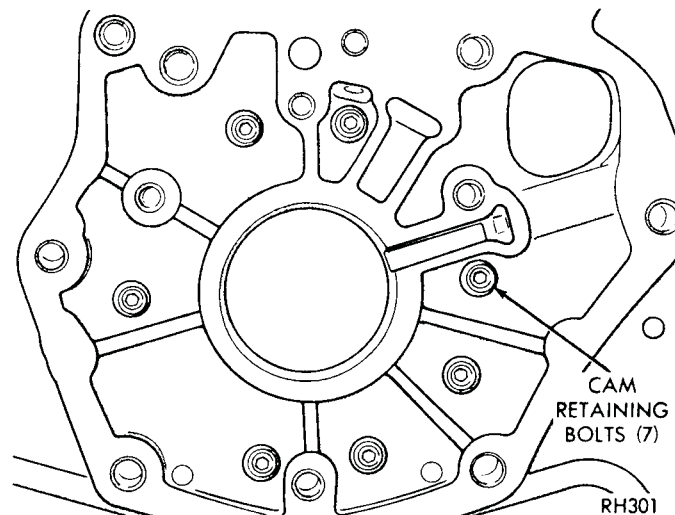
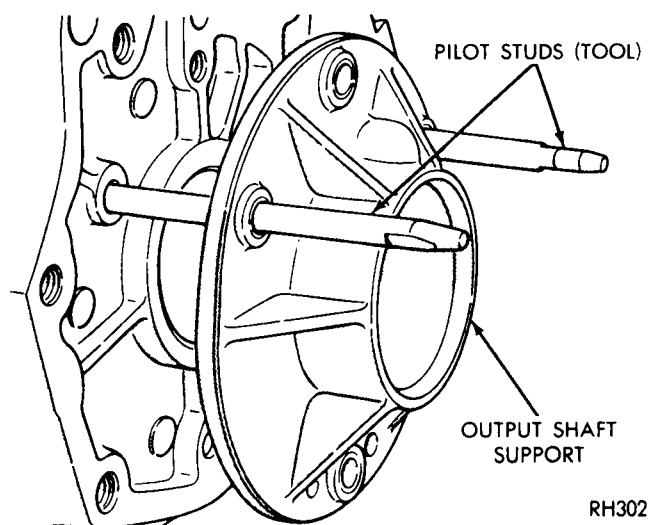

Fig. 37—Cam Retaining Bolts (A-904T and A-999)
Fig. 38—Install Output Shaft Support (A-904T and A-999)
(4) Carefully enlarge rivet holes in the case with a 17/64 inch drill. Remove all chips and foreign matter from the case, make sure cam area is free of chips and burrs.
(5) To install, position cam and roller spring retainer in the case. Align cam bolt holes with holes in the case, then thread all seven retaining bolt and washer assemblies into cam a few turns. The cone washers must be installed so inner diameter is coned toward the bolt head (Fig. 37).
(6) Tap cam firmly into the case if necessary. Draw retaining bolts down evenly, then tighten to 100 in. lbs. (11 N·m).
(7) Screw two pilot studs Tool C-3288-B into the case (Fig. 38). Position support over the pilot studs, and tap it firmly into the case with a soft-faced hammer.